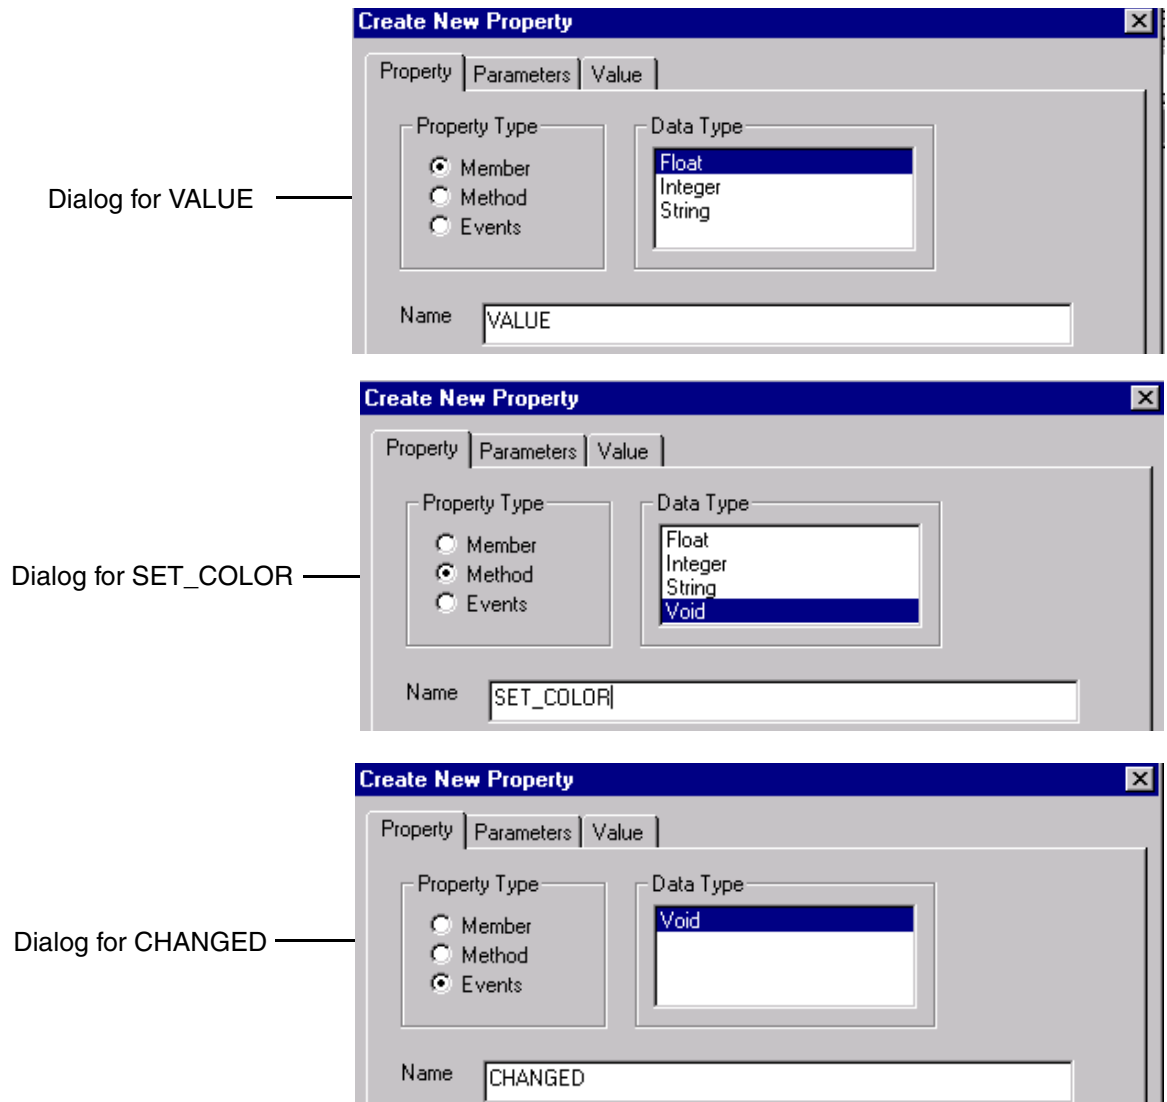

Figure 144. Dialogs for Adding VALUE, SET COLOR and CHANGED Properties
2. Repeat steps *c*, *d*, and *e* to add the VALUE (Member-Float), SET_COLOR (Method), and CHANGED (Event) properties to the AI TEST user element. Their respective functions are described in User Element Tutorial on page 232. The Create New Property dialog for each new property is shown in Figure 144.